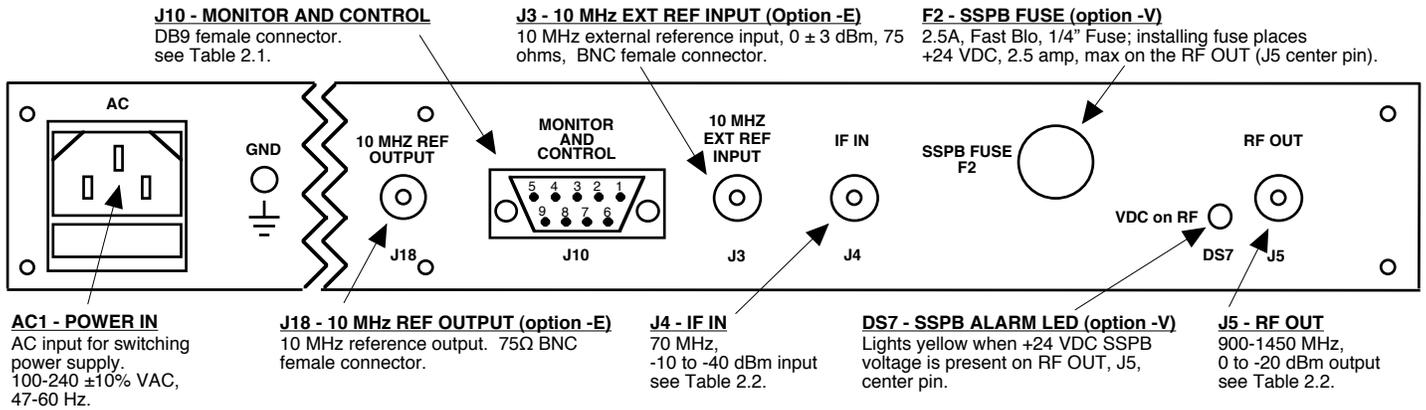

FIGURE 2.1 2015-03-01 Rear Panel I/O's
2.2 Rear Panel Input/Output Signals - Figure 2.1 shows the input and output connectors on the rear panel.
1. Connect a -10 dBm to -40 dBm signal to IF In, J4 (Figure 2.1)
8. Option -V only - To insert SSPB +24 VDC on the RF center pin install 2.5A fast blo fuse in F2 and check that DS7 lights yellow (Figure 2.1)